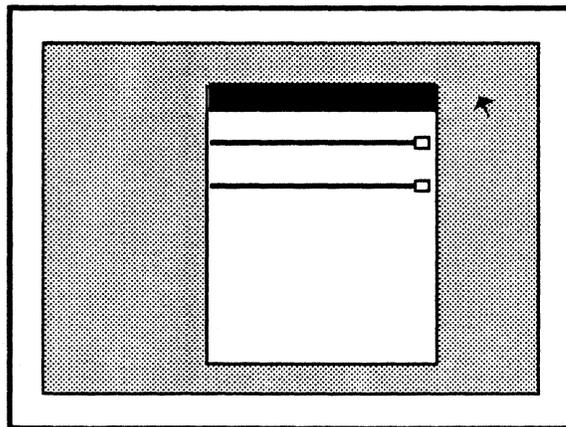

Figure 3.16
- 5) The window moves, and the cursor returns to its normal shape. The size and shape of the window remain unchanged. See figure 3.16.